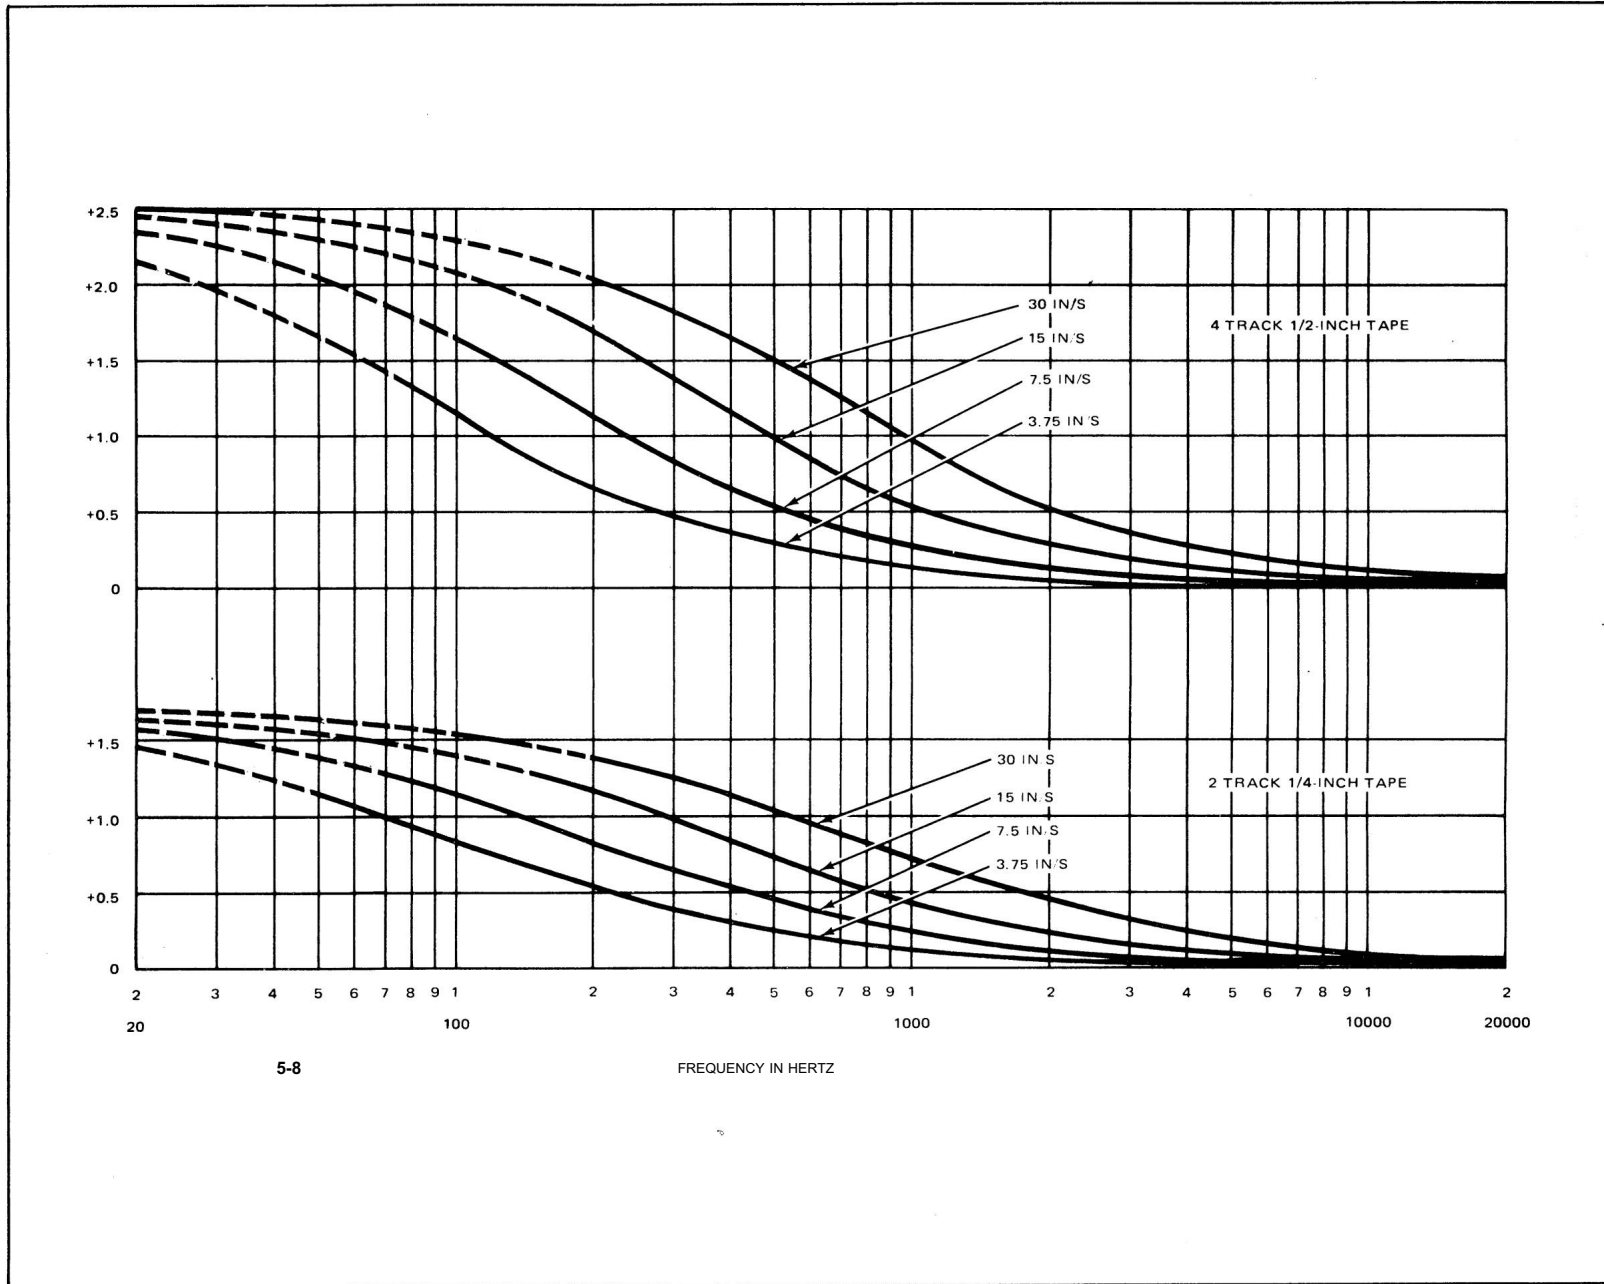

Figure 5-11. Relative Fringing Frequency Response Due to Fringing Effect
Therefore, if the equalization is correctly adjusted, the reproduce response when using a full-track alignment tape on either a 2-track, 1/4-inch tape system or a 4-track, 1/2-inch tape system should conform to the relative curves shown in Figure 5-11 within the tolerances given in Table 5-3. The curves given in Figure 5-11 display the *relative* fringing frequency response and *do not* include the fixed error due to the wider reproduce core width (as compared to the record head width).
The correction factors in Table 5-4 are the amounts by which the actual measured reproduce output from a full width alignment tape will exceed the reproduce output of the correct track width recorded to the same fluxivity. The table includes the fixed error due to the wider reproduce core width and the relative fringing error (shown in Figure 5-11) for frequencies of 500 Hz, 700 Hz, and 1.0 kHz. For example, when reproducing the 700-Hz, 185 nWb/m tone on an Ampex 15 in/s full-width alignment tape on a 2-track, 1/4-inch tape system, the output (as read on an ac voltmeter) will be +1.14 dB higher (Table 5-4) as compared to reproducing and alignment tape that
0.58 dB — relative fringing frequency response due to fringing error effect at 700 Hz and 15 in/s (Figure 5-11).
*The amplitude correction factors shown in the table are the sum of the values shown in Figures 5-11 for the frequencies shown in the table, and the fixed errors due to wider reproduce core width as follows: